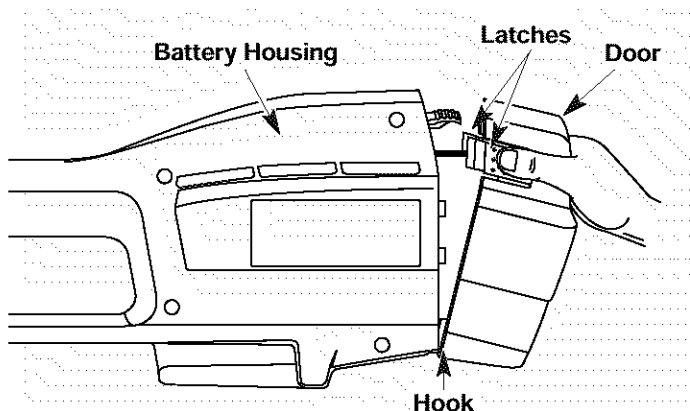

Fig. 17
1. Push the two latches on the side of the battery housing door in and swing the door down. Unhook the door from the slot on the bottom of the battery housing by lifting up and away. Set the door aside (Fig. 17).